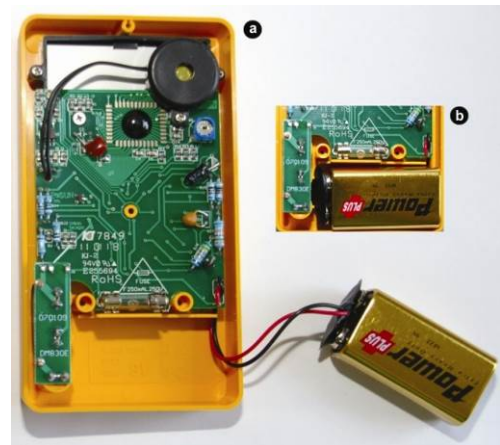

Fig. 2: Inserting the battery.
- When you close the rear panel, make sure that the battery connection cable is not wedged in the casing. If it is, do not screw the panel shut with force, but first push the battery cable out of the way under the battery (see Fig. 2, b).